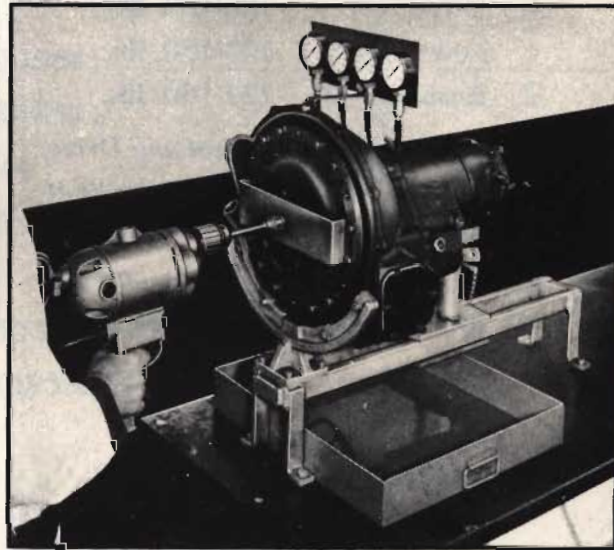

Fig. 10. Revolving primary pump
The primary pump may be rotated using a 1/2" drill that rotates at 300 or more RPM and an adapter securely bolted to the primary pump cover as shown in Fig. 10. A 1952 transmission is used for illustrative purposes.
5. Secure the primary pump rotating adapter to the torque converter as shown in Fig. 10.